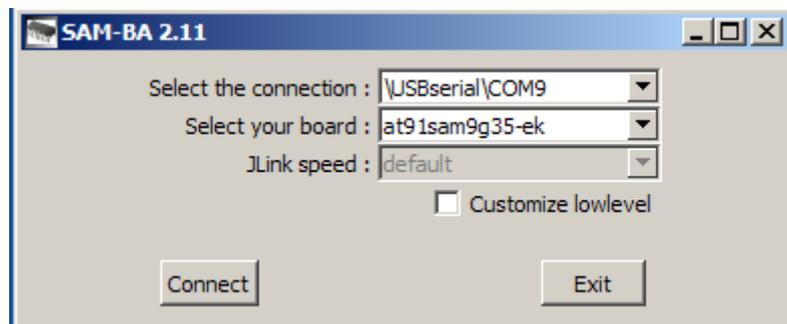

Figure 5-6
(1) Complete chapter 5.3.1 and 5.3.2, double-click samba v2.11, there appears interface. Refer to figure 5-6: